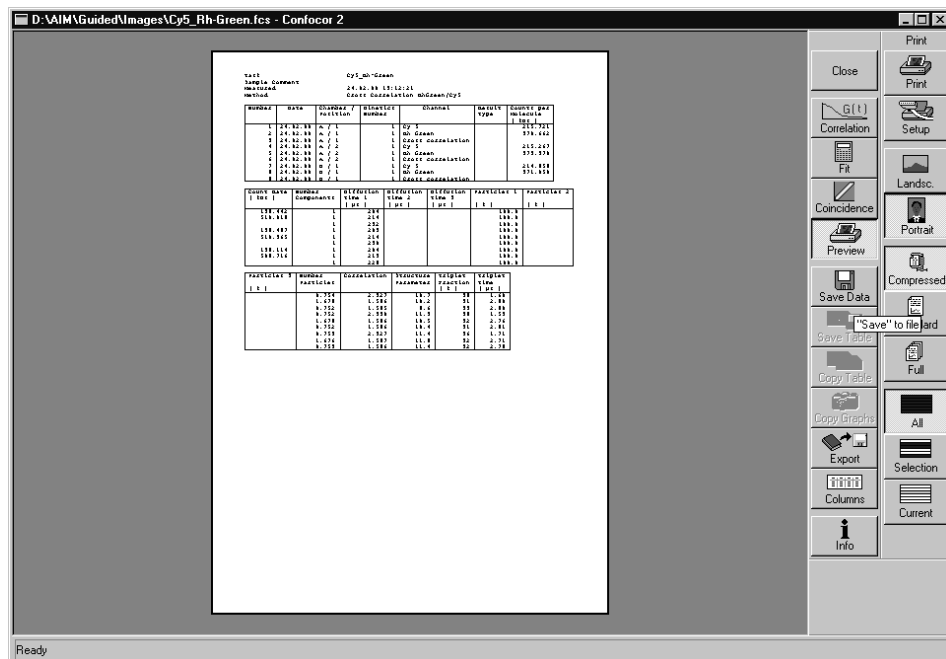

Fig. 3-117 Preview / Print window
- A print preview and the additional **Print** subordinate toolbar will appear on the screen (Fig. 3-117).